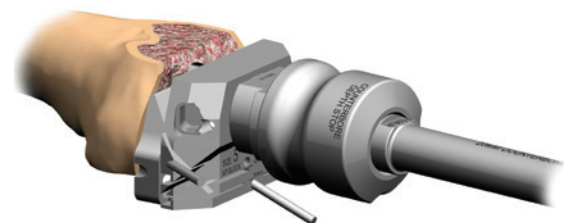

Figure 50
3. Insert the counterbore reamer assembly into the guide bushing and ream until the depth stop contacts with the guide bushing (Figure 50).